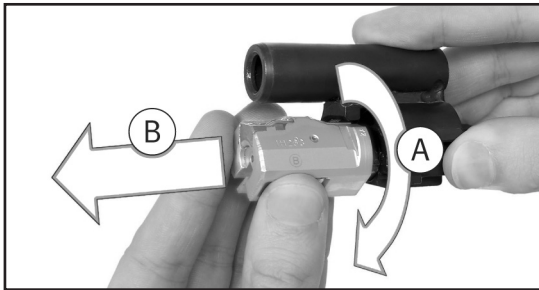

Fig. 39 – Remove the bolt head
2. Turn locking piece clockwise (Fig 39 (A))
3. Remove locking piece from bolt head carrier by bringing in forward (Fig. 39 (B))